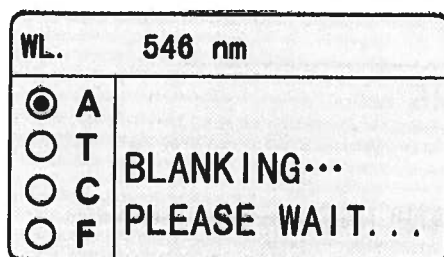

Fig. 4-2
3) Pull the Reference In the light path, press  to set 100%T (Fig.4-2);